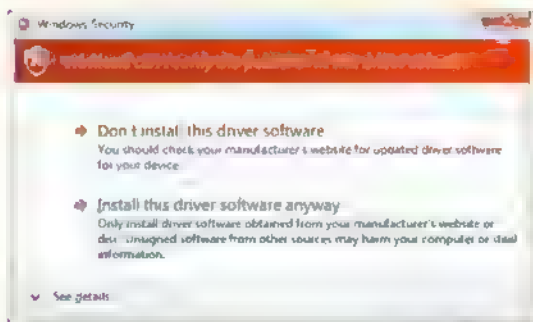
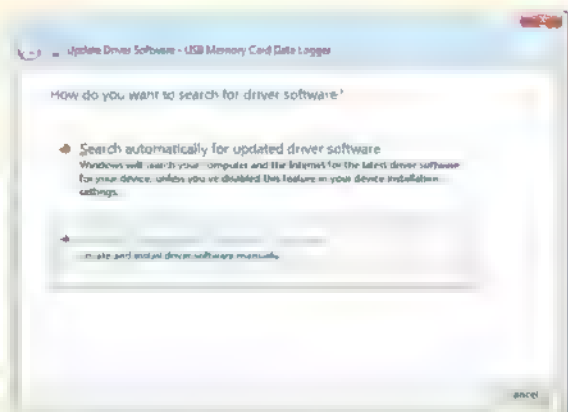

Fig.7: ignore this warning by clicking 'Install this driver software anyway'
Fig.6: select 'Browse my computer for driver software' when this window appears
- 6) Right-click this entry and select the 'Update Driver Software' option. A window similar to the one shown in Fig.6 will appear. Choose 'Browse my computer for driver software'. An open file dialog will appear and you should navigate to the directory where you unzipped the driver files using the 'Browse' button. Choose the '**USBMemoryCardDataLogger.inf**' file that appears. For recent Windows OS versions (eg, Vista and Windows 7), a security message will appear, as shown in Fig.7.